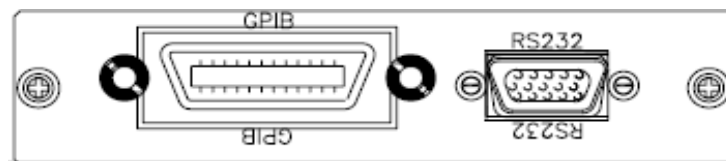

Fig 2-2 36000A Series GPIB & RS232 Connection
- 2.9.4. Fig 2-2 shows the RS232 connector (Female) on the rear panel Connects 36000A Series Mainframe to RS232 port of computer in one By one Configuration .The RS232 BAUD-RATE can be set in the front Panel, it Will be lit the GPIB Address when press the "SYSTEM" button. Press it again, it will be lit the BAUD-RATE.